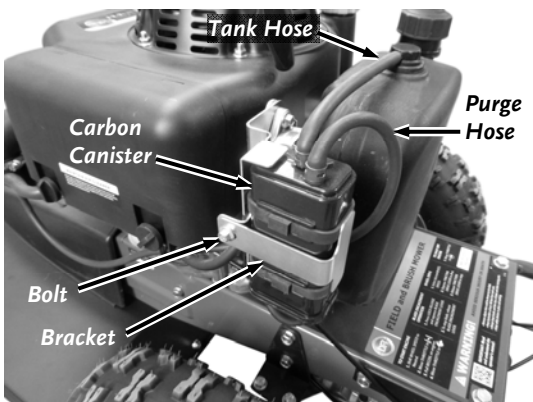

Figure 26
1. Pull the two hoses from the top of the Carbon Canister (**Figure 26**).